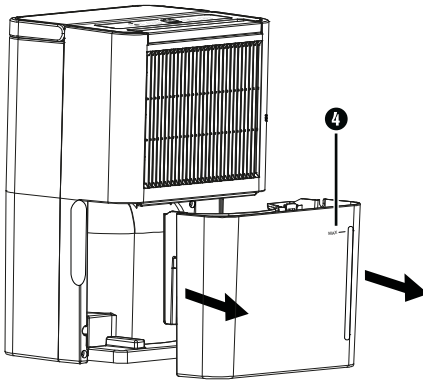

Fig. 2
- ◆ Carefully pull the water tank ④ out of the appliance using the recessed grips on the side (see figure 2).